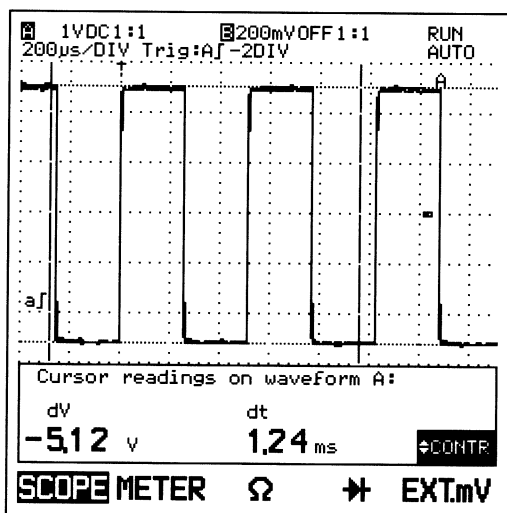

Figure 4.12 Generator square wave signal.
- I The display will look like figure 4.12. The generator must produce a square wave signal with an amplitude of 5V and a frequency of 1.95 kHz (typical values).